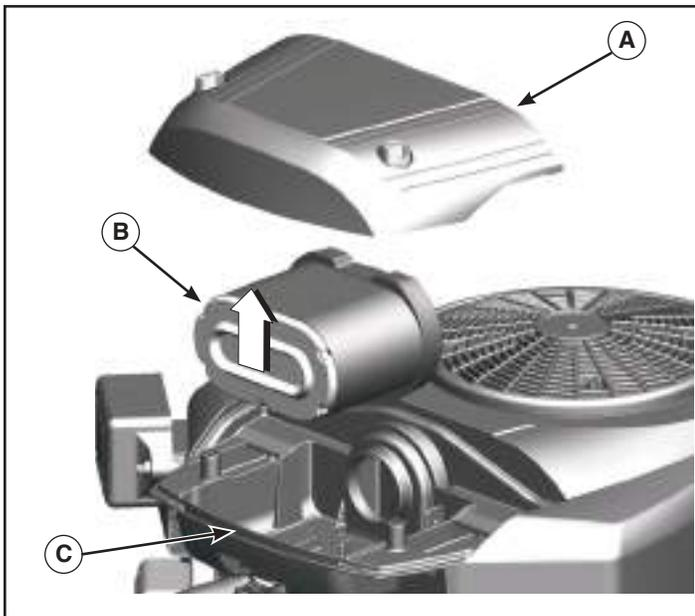

Figure 13
1. Unscrew and remove cover (A, Figure 13).
2. Remove air cleaner assembly (B) and disassemble.
3. Clean up any possible debris that might get into the carburetor throat (C).